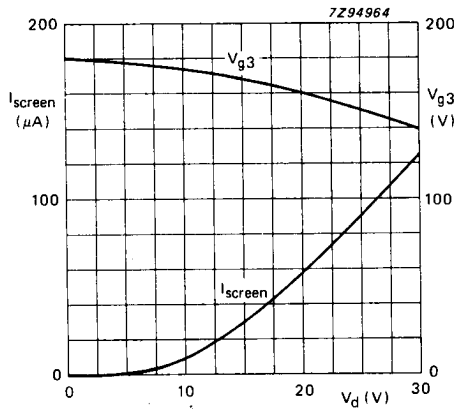

Fig. 5 Screen current ( $I_{\text{screen}}$ ) and focusing voltage ( $V_{g3}$ ) as a function of grid drive voltage ( $V_d$ ); typical curves.
5. An actual focus range of 30 V should be provided on the front panel.  $V_{g_3}$  decreases with increasing grid drive (see also Fig. 5).
6. Intensity control on the front panel should be limited to the maximum useful screen current (approx. 50  $\mu$ A; see also Fig. 5). It is to be adjusted either by the grid drive (up to 22 V) or for maximum acceptable line width. The corresponding cathode current or  $I_{g_2}$ ,  $g_4$  (up to 500  $\mu$ A) depend on the cut-off voltage and cannot be used for control settings.